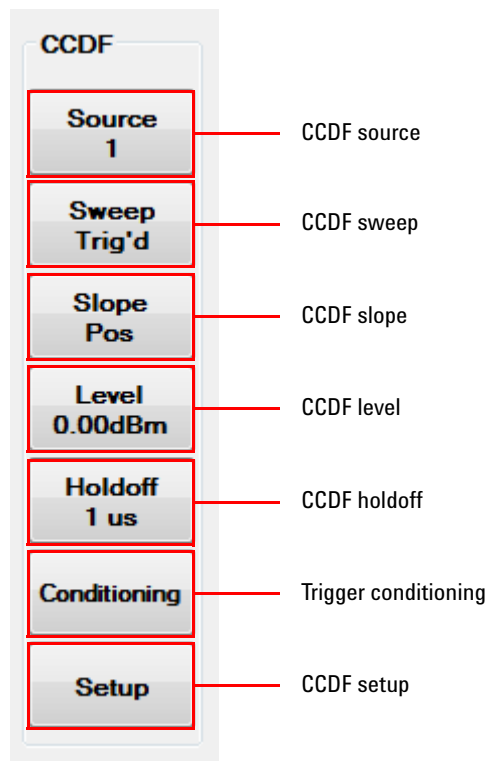

Figure 2-85 CCDF menu on the graphical interface
- 5 To configure the CCDF settings, select the individual buttons on the CCDF menu to toggle between selections or access the menu dialog as shown in Figure 2-85.